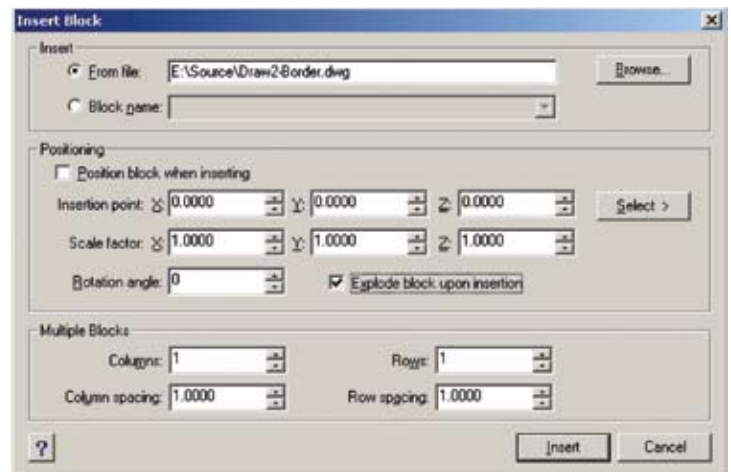

Figure 12.13
5. Turn on the option **Explode Block Upon Insertion**, so that it can be edited. See Figure 12.13.